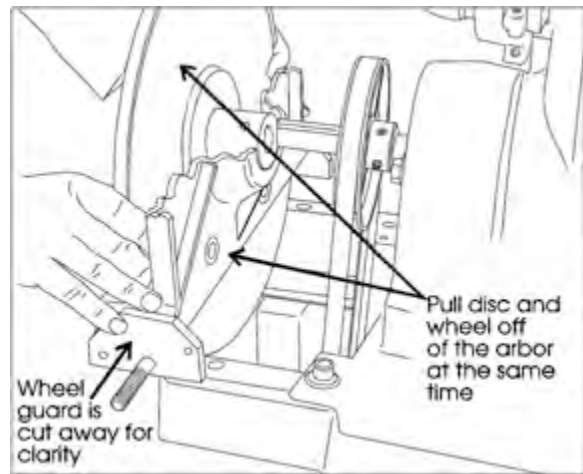

Figure 21: Removing the guard and drive disc, together
9. Slide the disc and its guard off of the machine, together (See Figure 21).